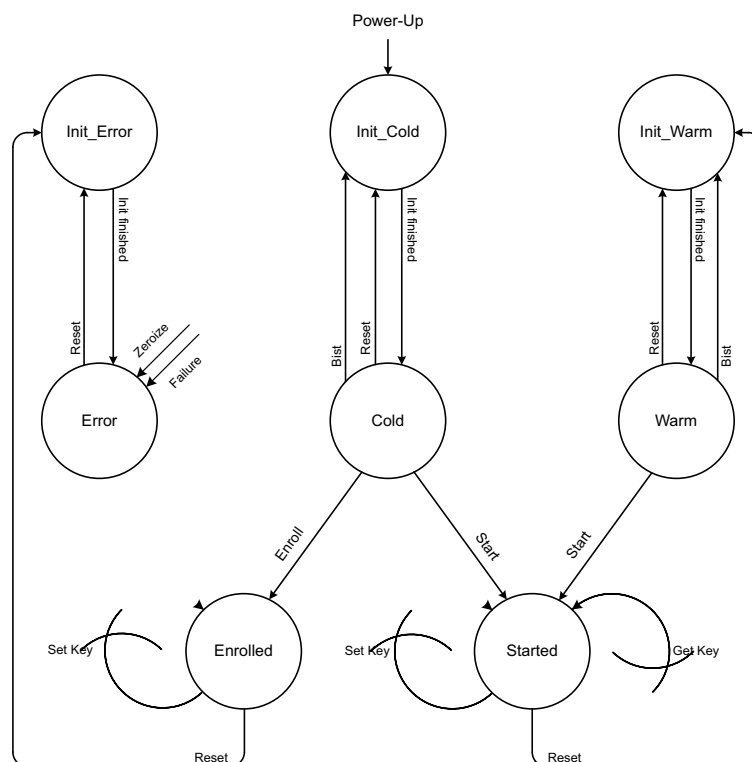

Fig 185. Possible flows, states, and actions
After power-up or reset the PUF controller starts in one of the three Init states, depending on its previous state. See Figure 185. It first initializes itself (indicated by BUSY = 1).
3. After the operation is finished the PUF de-asserts BUSY and asserts SUCCESS, signaling that the Start operation has completed successfully. When ERROR is asserted, instead of SUCCESS, the provided activation code does not match the device. In this case the PUF has gone to the Error state. See Figure 185 and Section 48.11.7.13 "Error response".
3. After the operation is finished BUSY is de-asserted and SUCCESS is asserted. It indicates that the Get Key operation has completed successfully. If ERROR is asserted instead of SUCCESS, the provided key code does not match the device. In this case no key is provided and the PUF controller goes to the Error state. See Figure 185 and Section 48.11.7.13 “Error response”.
When the ZEROIZE bit is programmed to 1, all internal critical security parameters are erased and the PUF controller goes to the error state. See Figure 185. No new operations can be performed until the device is repowered.